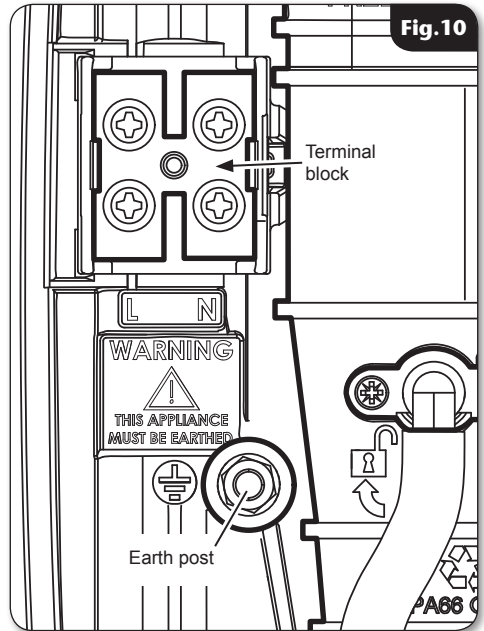

Fig. 10
- Route the cable into the shower unit for connection to the terminal block (**fig.10**) as follows: